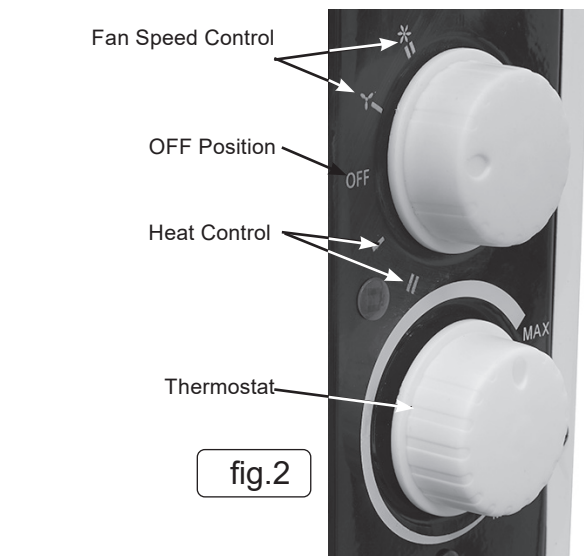

fig.2
4.4. TURBO FAN FEATURE (fig.2)